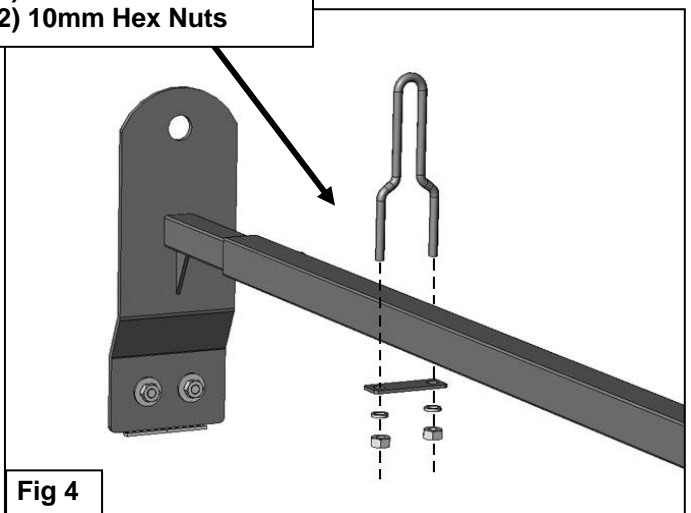

Fig 4
8. Select (1) Load Positioner U-Bolt and (1) 2-Hole Clamp Plate, **(Figure 4)**. Slide the U-Bolt down and over the Outer Cross Bar. Secure the Positioner to the Cross Bar tube with the 2-Hole Lock Plate, (2) 10mm Flat Washers, (2) 10mm Lock Washers and (2) 10mm Hex Nuts. Adjust Load Positioner location and tighten hardware.